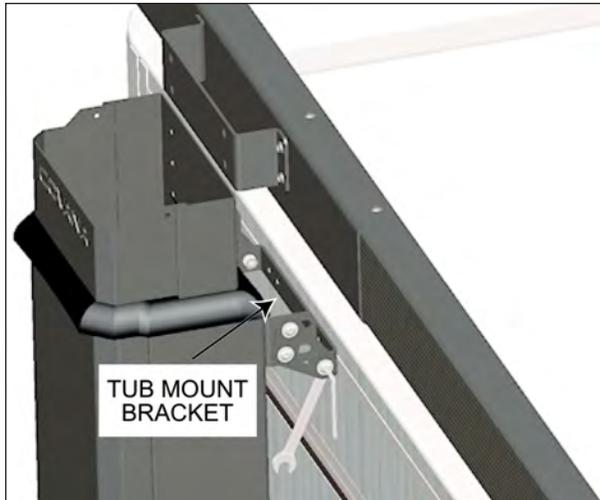

FIGURE 100: SLEEVE TOP INSTALLATION
19. Install the tub mount bracket mounted on the spa frame in between the short arms installed on the sleeve bracket see Figure 100.
20. Using 1/4-20 x 3/4" button head socket cap screws, the 1/4" washers, the 1/4" lock washers and 1/4-20 hex nuts, screw the short arms to the tub mount bracket using the provided 5/32" L hex key see Figure 100.